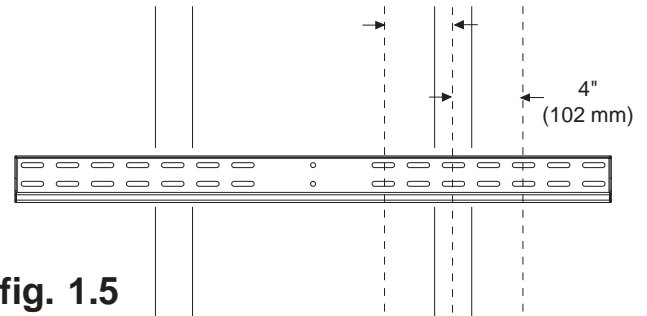

fig. 1.5
**Note:** When mounting equipment weighing greater than 100 lbs, triple stud mounting is strongly recommended. If mounting to two studs, wall plate may be mounted up to 4" (102 mm) off-center as shown in figure 1.5.